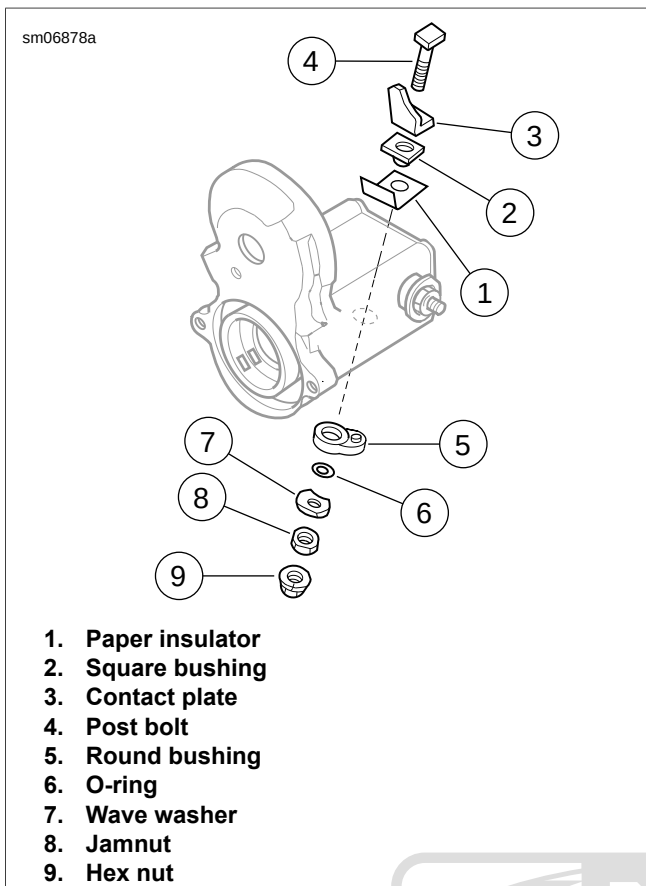

Figure 6-21. Long Post Contact (battery)
1. See Figure 6-21. Remove the long post contact:
- a. Remove hex nut (9).
- b. Remove jamnut (8), wave washer (7), O-ring (6) and the round bushing (5).
- c. Remove post bolt (4), contact plate (3), square bushing (2) and paper insulator (1).